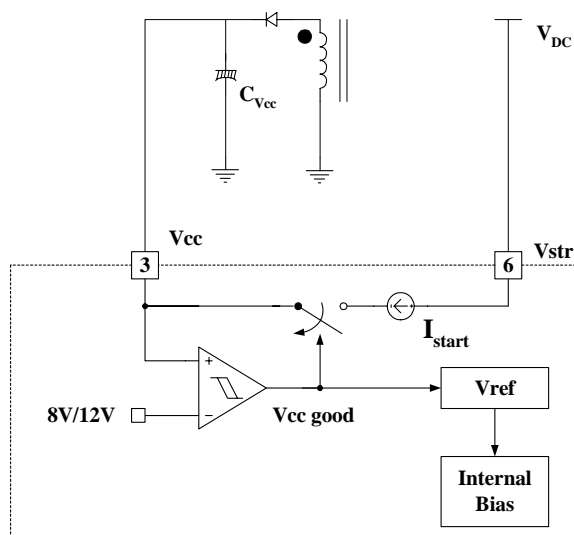

Figure 4. Internal startup circuit
**1. Startup :** In previous generations of Fairchild Power Switches (FPSTM) the Vcc pin had an external start-up resistor to the DC input voltage line. In this generation the startup resistor is replaced by an internal high voltage current source. At startup, an internal high voltage current source supplies the internal bias and charges the external capacitor (CVcc) that is connected to the Vcc pin as illustrated in figure 4. When Vcc reaches 12V, the FPSTM begins switching and the internal high voltage current source is disabled. Then, the FPSTM continues its normal switching operation and the power is supplied from the auxiliary transformer winding unless Vcc goes below the stop voltage of 8V.